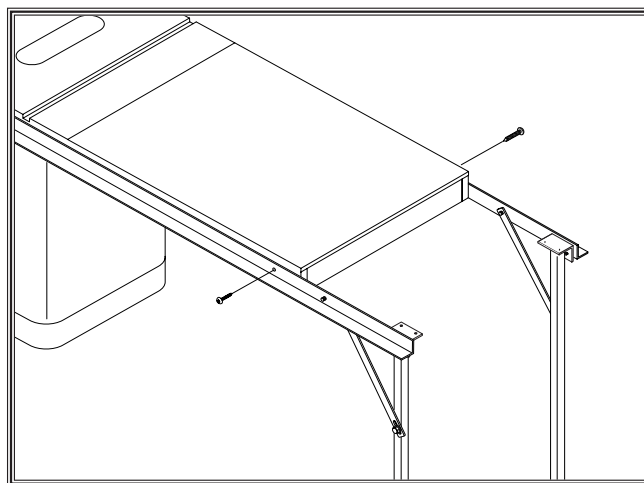

Figure 7. Extension rails and table assembly.
2. When installing the extension table, be sure it is flush with the table saw top by placing a long straightedge across both tables and adjusting the extension until it is even along the length of the straightedge. **Figure 7** shows a typical installation.